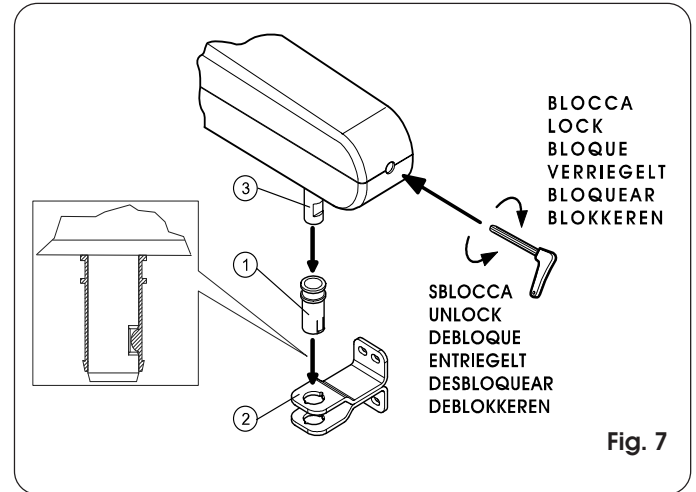

Fig. 7
- Check if the pin (Fig. 7 Ref. ③) is in contact with the front of the operator. If it is not, turn the release key - fitted in the appropriate seat (Fig. 7) - clockwise to the end of its travel.
- Turn the release key anti-clockwise for 6-7 turns as shown in Fig. 7.
Insert the bush (Fig. 7 Ref. ①) in the front fitting (Fig. 7 Ref. ②). The mechanical stop on the bush must coincide with the pin groove of the operator. Fit the pin (Fig. 7 Ref. ③) in the bush.